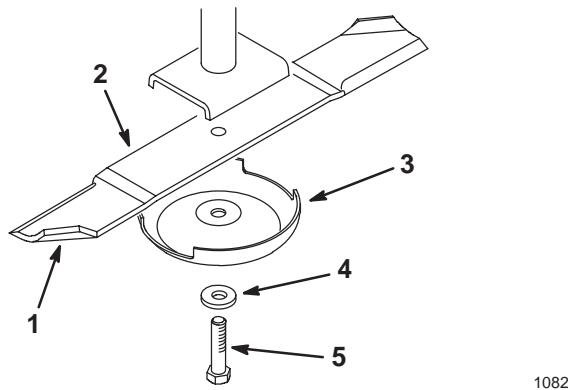
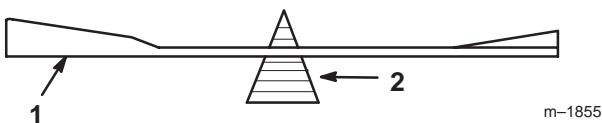

Figure 15
Figure 17
Hold the blade end using a rag or thickly-padded glove. Remove the blade bolt, lock washer, anti-scalp cup and blade from the spindle shaft (Fig. 15).
2. Check the balance of the blade by putting it on a blade balancer (Fig. 17). If the blade stays in a horizontal position, the blade is balanced and can be used. If the blade is not balanced, file some metal off the end of the sail area only (Fig. 15). Repeat this procedure until the blade is balanced.
1. Install the blade and anti-scalp cup onto the spindle shaft (Fig. 15).
2. Install the lock washer and blade bolt (Fig. 15). Torque the blade bolt to 85–110 ft.-lb (115–149 N•m).